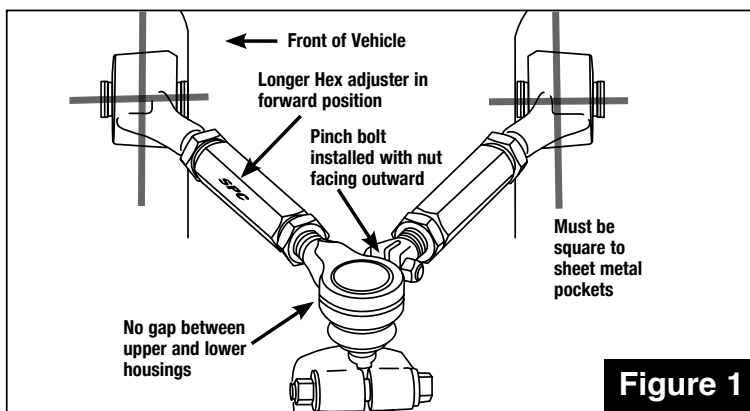

Figure 1
control arm pinch bolt is arranged with nut facing outward, see Figure 1.
5. Install SPC adjustable control arm using OE bushing hardware. Inboard bushing housings should be aligned square to bushing pockets. Figure 1.